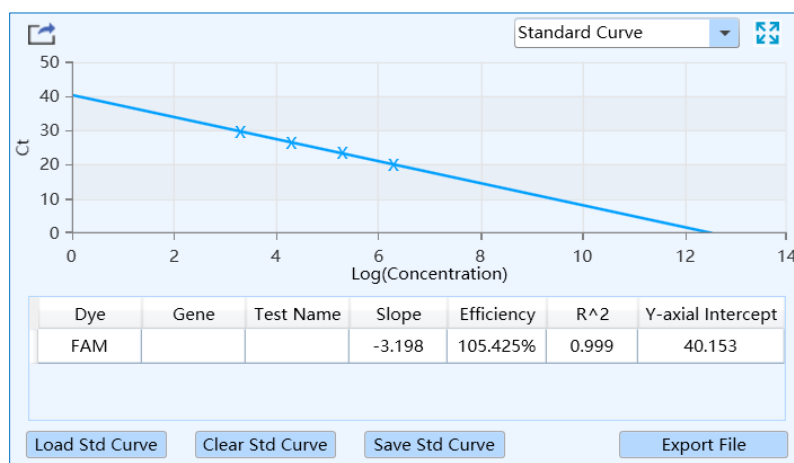

Figure D-9.2. Abs Quant Analysis Interface - Standard Curve Functional Module
- II. **Standard Curve:** displays the threshold Ct value against the initial nucleic acid quantity of each standard sample, as shown in figure D-9.2. For absolute quantification, the standard curve is used to assign initial nucleic acid quantities to unknown samples.